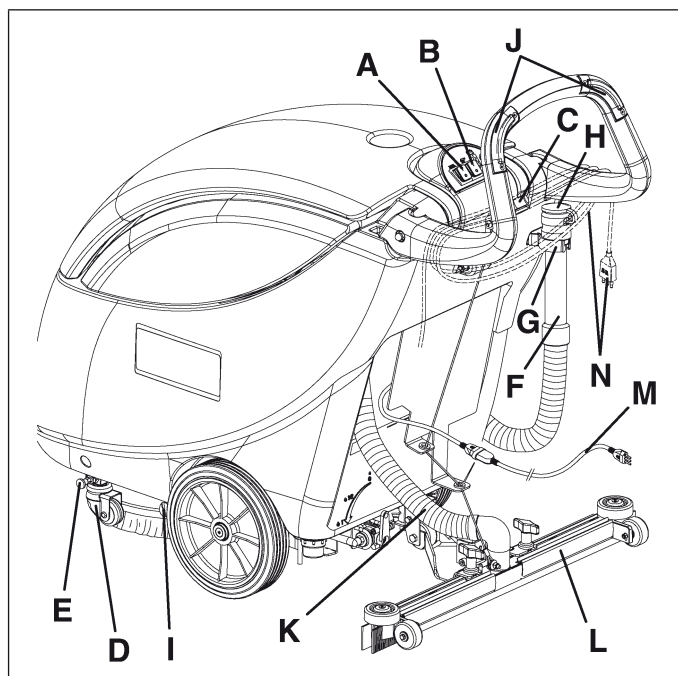

Figure 13
1. Stop the machine by turning the brush/pad rotation switch and the water vacuuming switch (A and B, Fig. 13) to the "0" position.
2. Disconnect the power supply cable plug (M, Fig. 13) from the electrical mains. Roll up the power supply cable on the handlebar into position (N).
3. Lift the squeegee by means of the lever (C, Fig. 13).
5. Insert the positioning pin (E), lift the brush/pad and activate the transport/parking device (D, Fig. 13) by means of the handlebar.
6. Disconnect the recovery tank drain hose (F, Fig. 13) from the bracket (G); open the cover (H), then lower the hose (F) and empty the recovery tank. Then, rinse the tank with clean water.
8. Empty the solution tank by opening the drain valve (I, Fig. 13). Then, rinse the tank with clean water.
- Turn the brush/pad rotation switch (A, Fig. 13) to the "I" position.
- Lift the brush/pad-holder and press one or both the switches (J, Fig. 13) for a few seconds, then release them: this causes the brush/pad-holder to be disengaged.